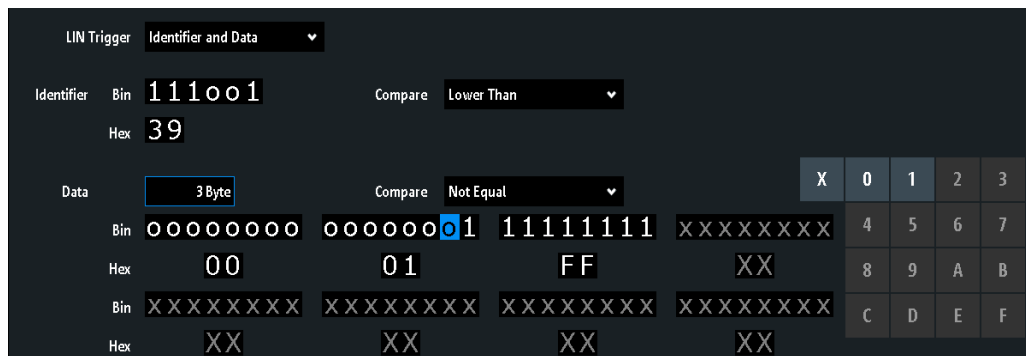

Figure 12-32: Trigger setup to trigger on identifier and data patterns
- "Identifier and Data" Triggers on a combination of identifier and data condition. The instrument triggers at the end of the last byte of the specified data pattern. An example is shown in Figure 12-32. See "Identifier condition" on page 283 and "Data condition" on page 284.